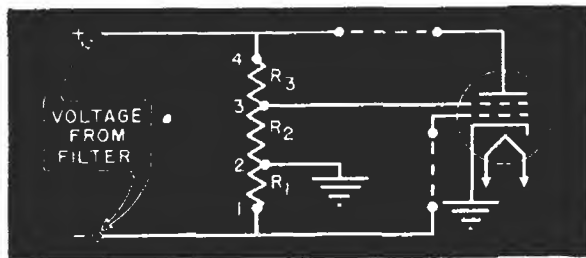
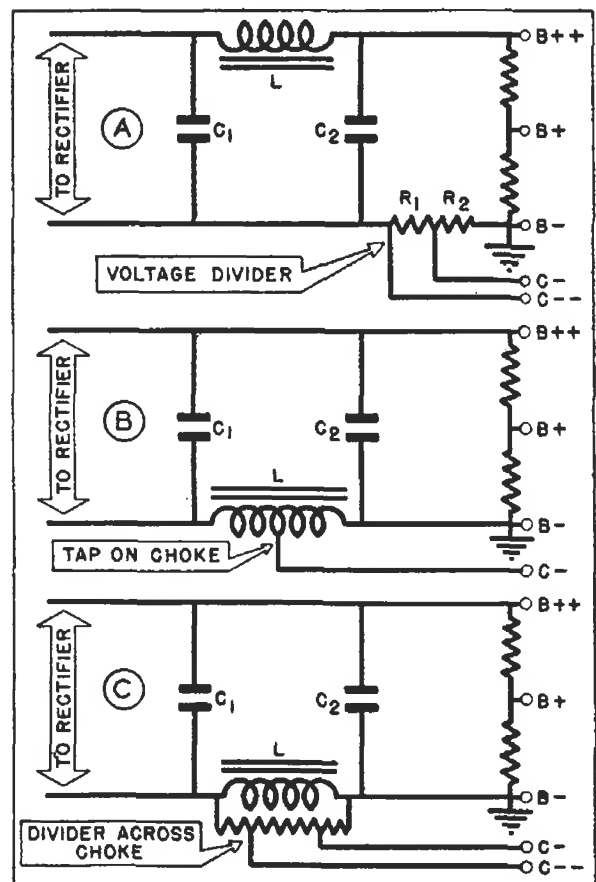

FIG. 24. A complete voltage divider.
FIG. 25. Three ways of getting bias from the power pack.
► A practical application of the voltage divider is shown in Fig. 24. Here, resistor R_2 is the bleeder. Series resistor R_1 provides the correct screen voltage, and the C bias voltage is produced across R_1 . Notice that both point 2 on the voltage divider and the cathode of the tube are grounded. The cathode and bleeder current electrons come from the minus supply terminal and flow through R_1 to point 2. Here they divide, the cathode electrons flowing through the chassis to the cathode, and the bleeder electrons continuing on through R_2 .
► Fig. 25 shows three common ways of getting bias voltage from the power pack. In Fig. 25A, resistors R_1 and R_2 (this may be a single tapped resistor) are placed in the power supply B—lead. Their action is similar to that of R_1 in Fig. 24, except that the cathode currents of all the tubes now flow through the resistors. Grids of tubes which need the full voltage for